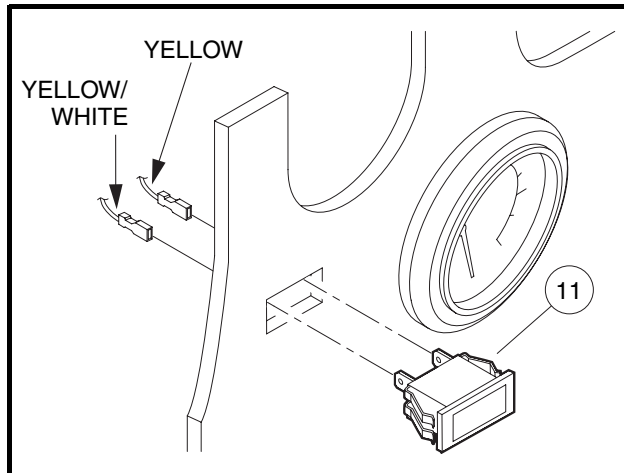

Figure 12-21 Low Oil Warning Light
3. Disconnect the wires from the low oil warning light (11) (**Figure 12-21, Page 12-21**).
1. Push a new unit into hole in instrument panel until plastic tabs engage (**Figure 12-21, Page 12-21**).